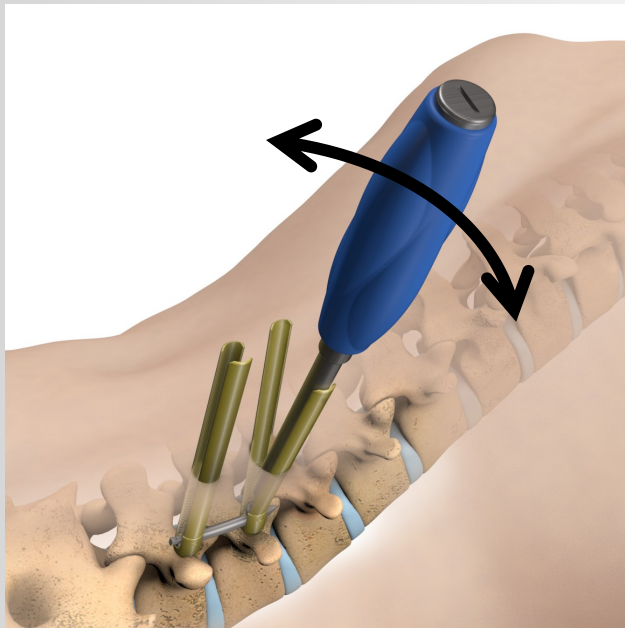

Figure 29
- A. Once the construct is finally tightened, the extended tabs need to be removed. Slide the **Sleeve Cutter** up to the Set Screw (Figure 29).